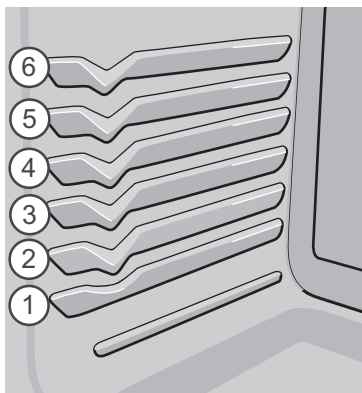
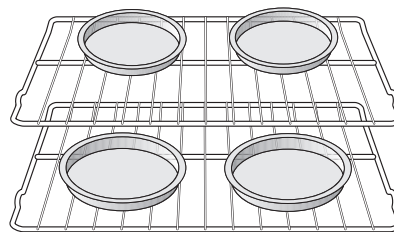

Figure 26: Oven rack positions
Figure 27: Baking on multiple levels/racks
- For best results when baking cookies and cakes using two oven racks, place racks in positions 2 and 5 (Figure 26) and place pans as shown in Figure 27. Use flat rack in position 5 and glide rack in position 2.
- When baking using two oven racks, position bakeware as shown in Figure 27. Allow at least 2 inches (5 cm) of space between bakeware for proper air circulation.